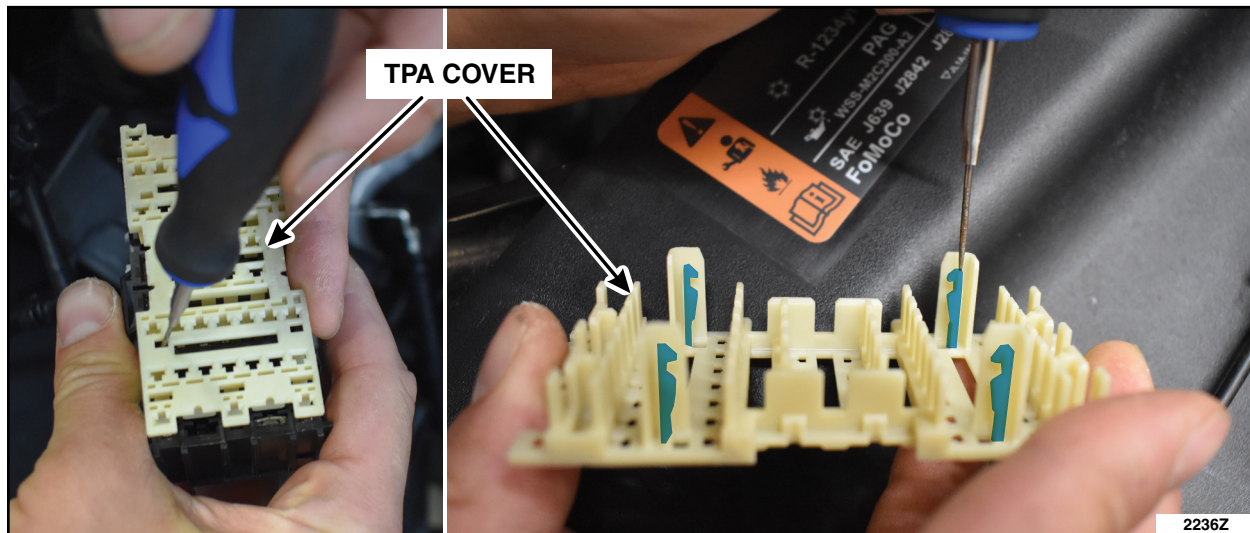

FIGURE 32
37. Using a pointed terminal tool, remove the TPA cover. See Figure 32.